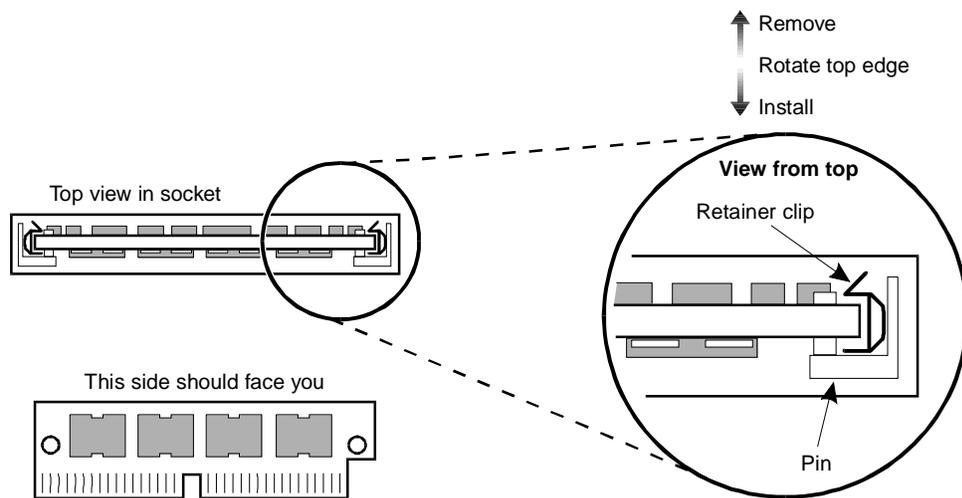

Figure C-2. Removing or Installing Memory SIMMs
7. Ensure the metal snap locks at the edge of the SIMM connectors are indeed locked at the edges of the SIMM. See Figure C-2.
9. To remove an existing SIMM, gently release the metal snap locks at the edge of the SIMM connectors. See Figure C-2.